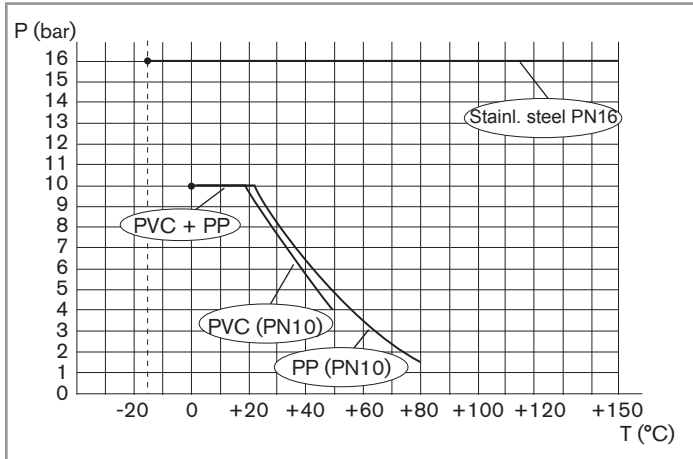

Figure 3: Temperature/pressure dependency curve of the liquid when T fittings are used alone
- Observe the temperature/pressure dependency of the liquid, depending on the type of materials the fitting is made of (see Figure 3)) and the measuring instrument that is used (see the corresponding operating instructions).